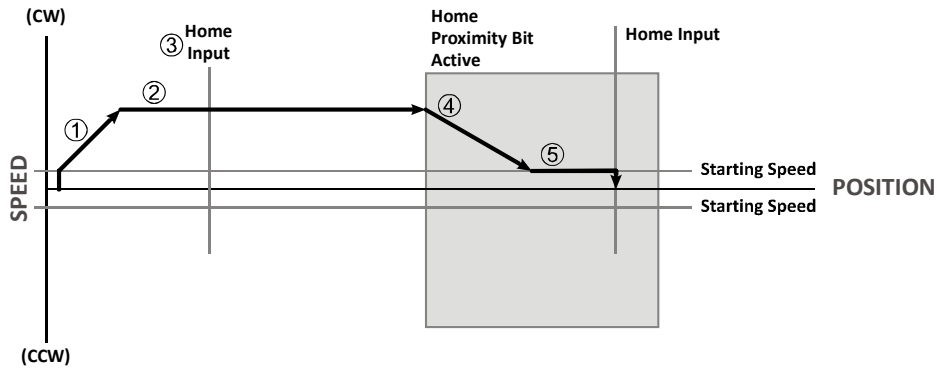

Figure R3.2 Homing with Proximity
Figure R3.2 below shows the move profile generated by a CW Find Home command when you use the Home Input with Backplane\_Proximity\_Bit.
**Note**▶ Figure R3.2 shows the Backplane\_Proximity\_Bit staying active until the ISMD23E2 reaches its home position. This is valid, but does not have to occur. As stated in step 4, the ISMD23E2 starts to hunt for the home position as soon as the Backplane\_Proximity\_Bit makes a 0→1 transition.